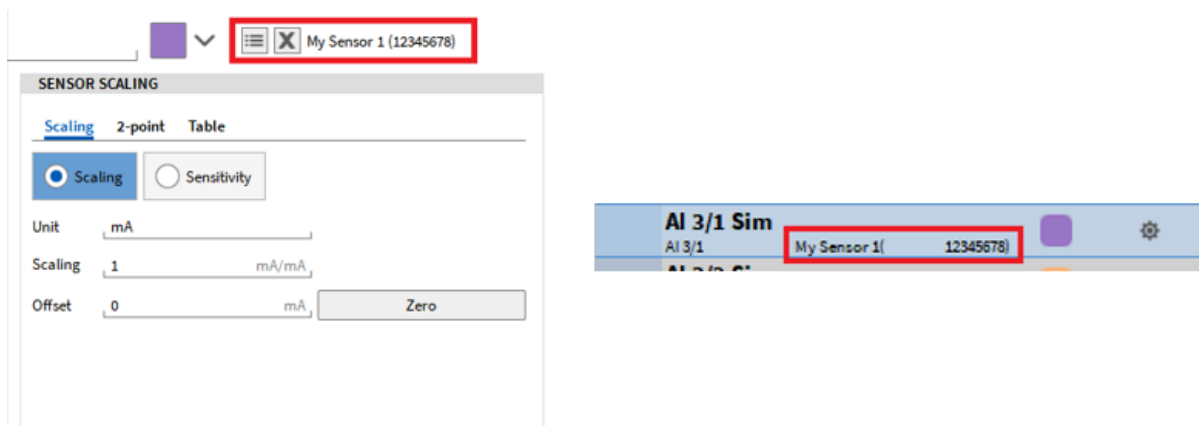

Fig. 6.16: Name of chosen sensor for the channel seen in the channel list and channel settings
- The parameters of the sensor will be applied on the channel. This can be recognized by the name of the sensor, which will be displayed in the channel settings and in the channel, list seen in Fig. 6.16.
- To remove an applied sensor from a channel simply click on the X button next to the sensor name in the channel settings (see Fig. 6.16).